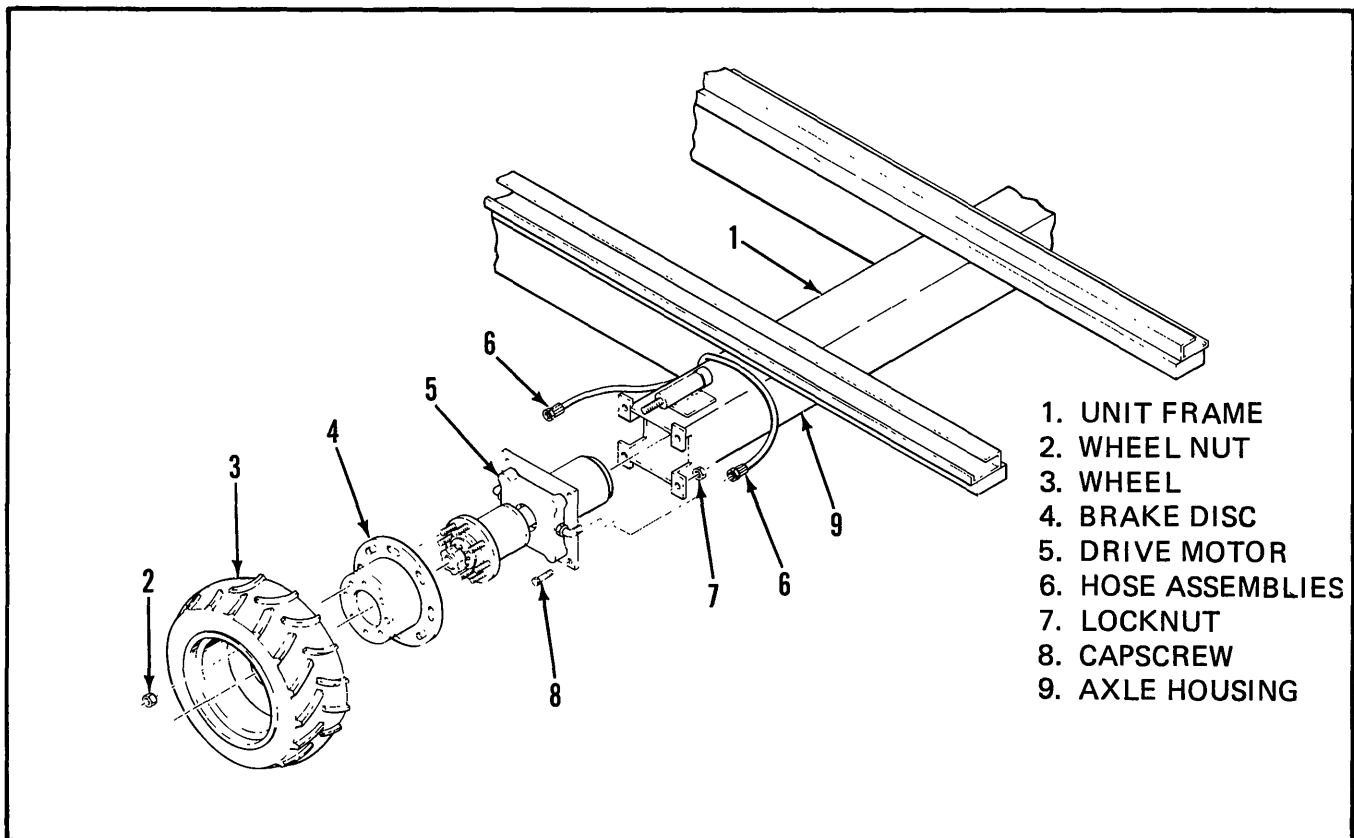

Figure 5-10. Drive Motor Removal (Optional)
a. Removal (Figure 5-10).
(1) Park the machine on firm level ground then block the wheels to prevent the machine from rolling.
(2) Use a 1.5 ton capacity jack to raise the desired rear corner.
(1) Refer to Figure 5-10 and position the drive motor assembly (5) within the axle housing (9) and secure with locknuts. Torque the locknuts to 50 to 60 lb./ft.
(2) Remove the plugs from the hose assemblies (6) and connect them to the drive motor (5).